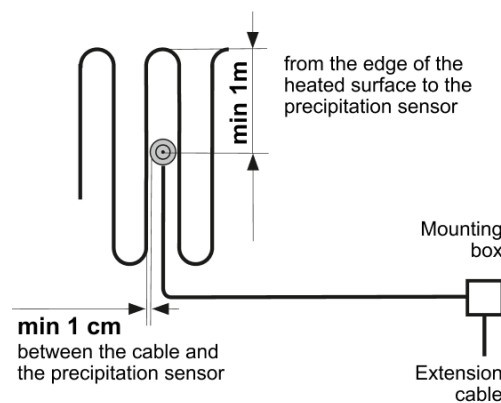

Figure 3. Location of the precipitation sensor and the heating cable heating the soil
- the precipitation sensor should be positioned inside the heated surface area and at least 1 m away from its edge (Fig. 3).